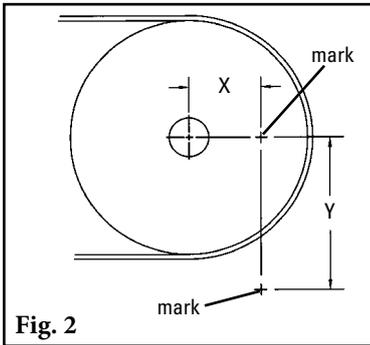

Fig. 2
2. **Lay out the dimensions on the chute wall.** Measure out the X dimension horizontally from the centre of the pulley shaft and mark. (NOTE: It may be easier to put a level on top of the pulley shaft, draw a horizontal line and then measure down half the diameter of the shaft and make a line from the front of the shaft. Now subtract half the pulley shaft diameter from the X coordinate and measure on the line and make a mark.) Then measure down vertically the Y dimension and mark. This is the correct position for the centre of the cleaner pole (Fig. 2). Lay out and mark the same dimensions on the other side.